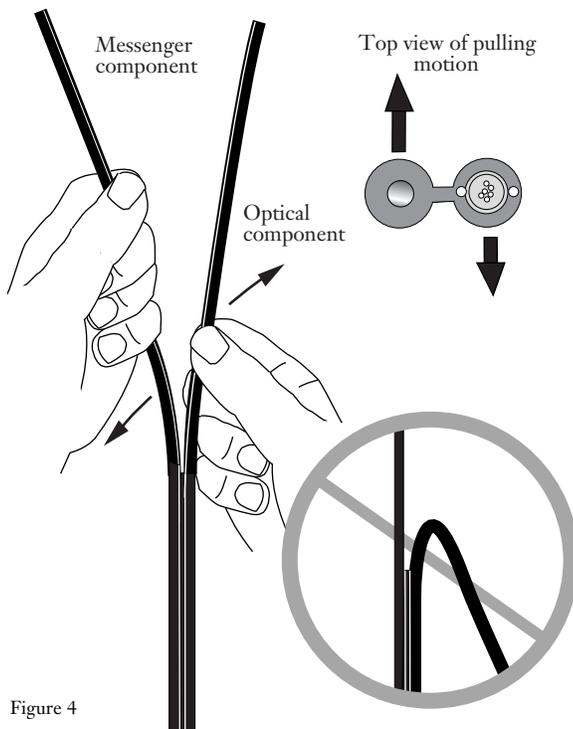

Figure 4
5.3 Using great care to avoid kinking the optical component, pull the two components apart to the tape mark (Figure 4).